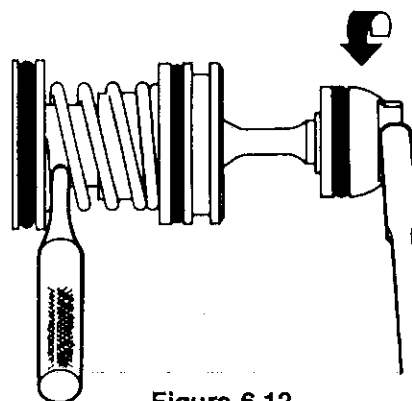

Figure 6.12
19. Insert a drift punch into the hole in the sequencing valve piston (9). This will provide leverage when removing the air-foil (1). See Figure 6.12.